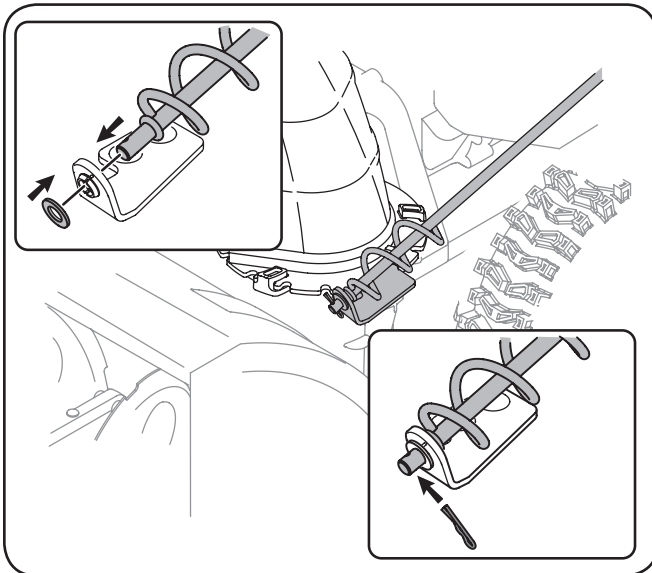

Figure 3-5
1. Remove the plastic cap (if present), flat washer and hairpin clip from the end of the chute directional control. See Figure 3-5.